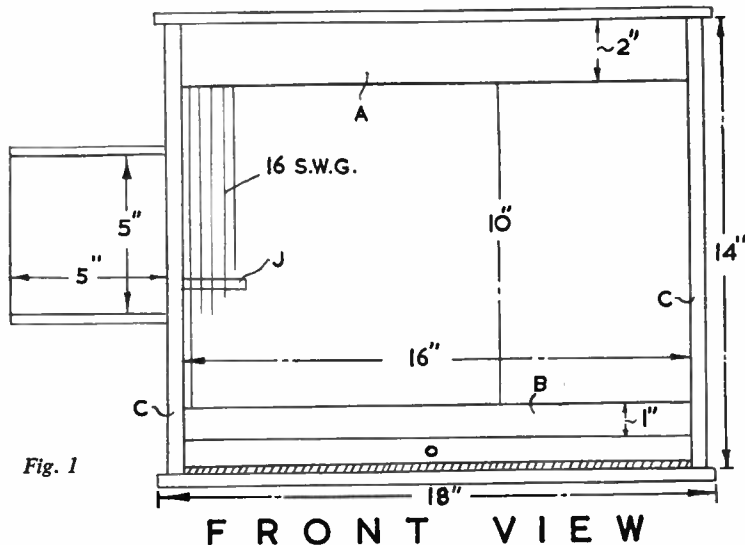

Fig. 1
Just below the entrance holes of the nest boxes glue and pin a small shelf (J) 6 in. long, $1\frac{1}{2}$ in. wide and $\frac{3}{8}$ in. thick, as shown in Fig. 1, on which the birds may alight on entry to, or exit from the nests.
The main measurements are shown in the front and end views in Figs 1 and 2.